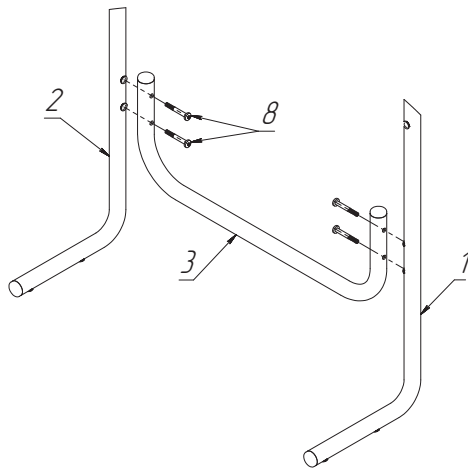

Figure 12.
Mount the transverse tube (3) between left (1) and right (2) grips and fasten it with screws (8), as shown in Figure 12.